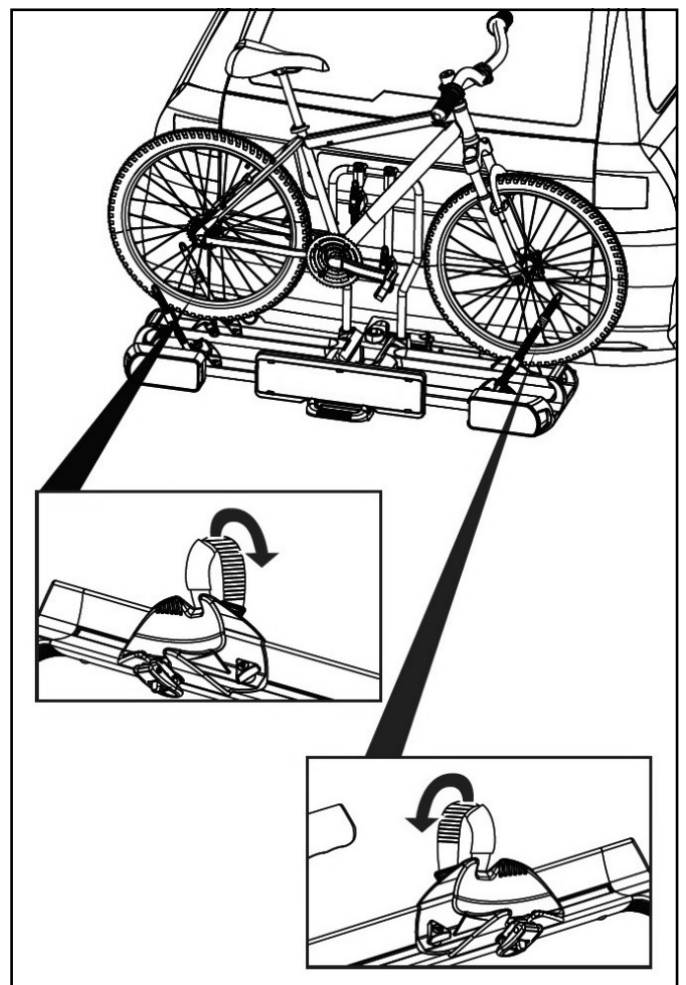

Figure 20: Opening the wheel stoppers
- If one of the fastenings is loose, repeat the steps shown in Figures 20 to 28.